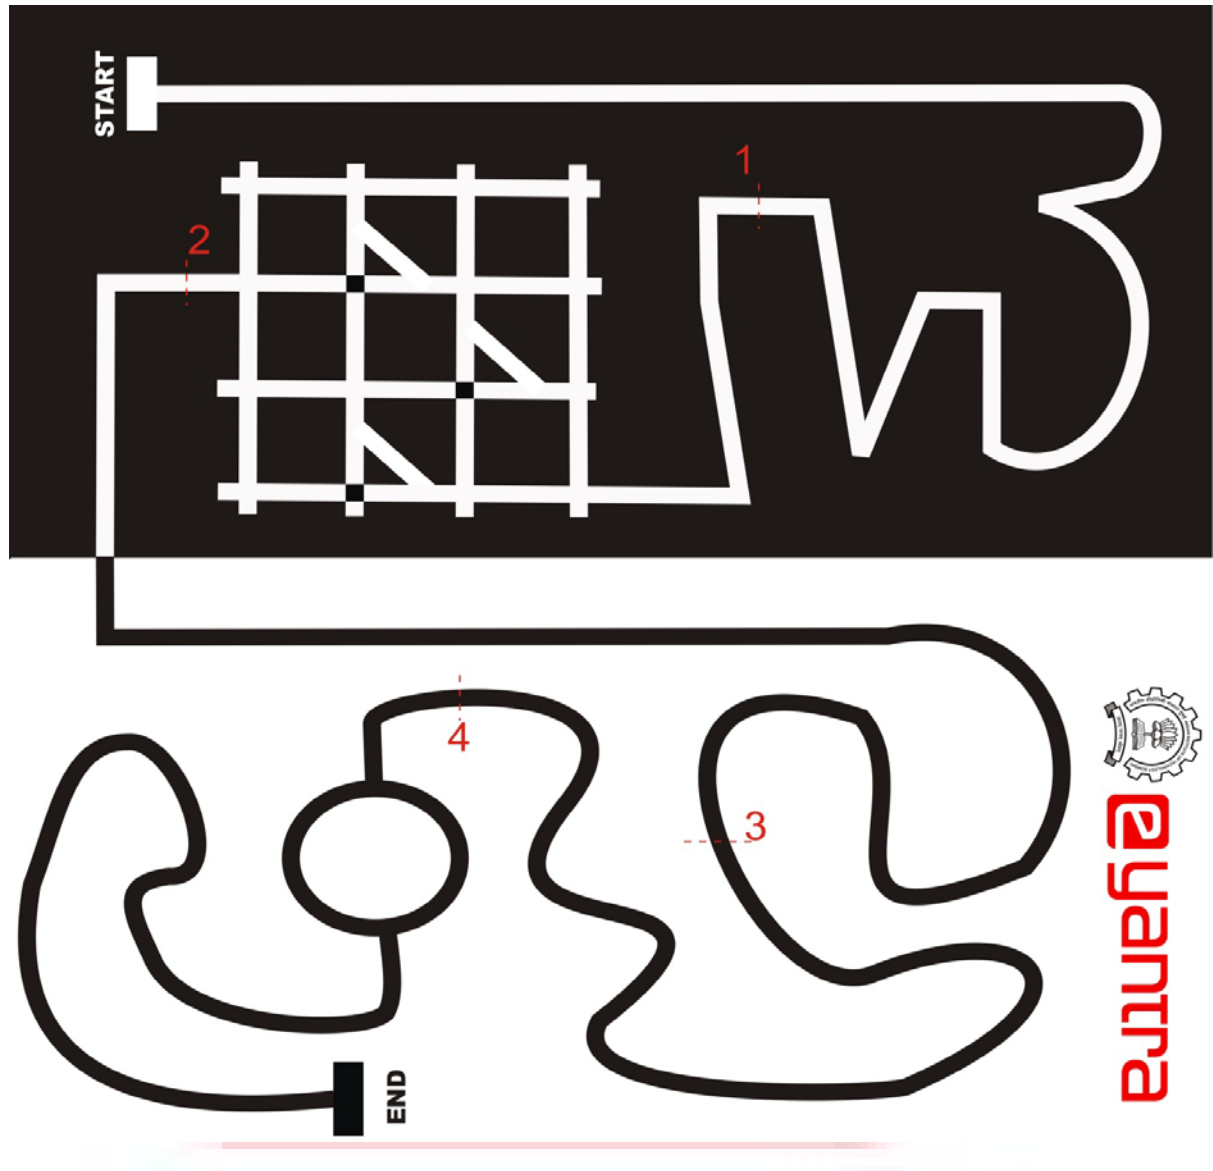

Figure 1: Arena Design
1. Arena has two parts. The first part has white lines on a black surface and second part has black lines on a white surface as shown in Figure 1.
5. The arena has **4 checkpoints** as indicated in **RED** in Figure 1. These points are used for repositioning and scoring as explained in **theme rules** below.
- The grid is present between checkpoint 1 and checkpoint 2. It consists of 3 black junctions as seen in Figure 1.
1. There are four checkpoints in the arena excluding the START and END points as numbered in Figure 1.